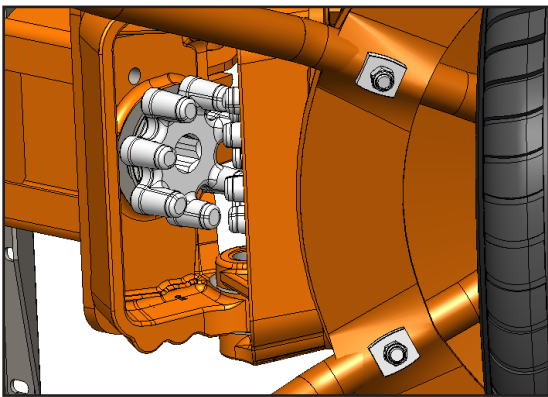

Figure 38
- 2) The profile of the outer hex shaft must be flat, so that it will fit back through the finger joint. (Figure 38)